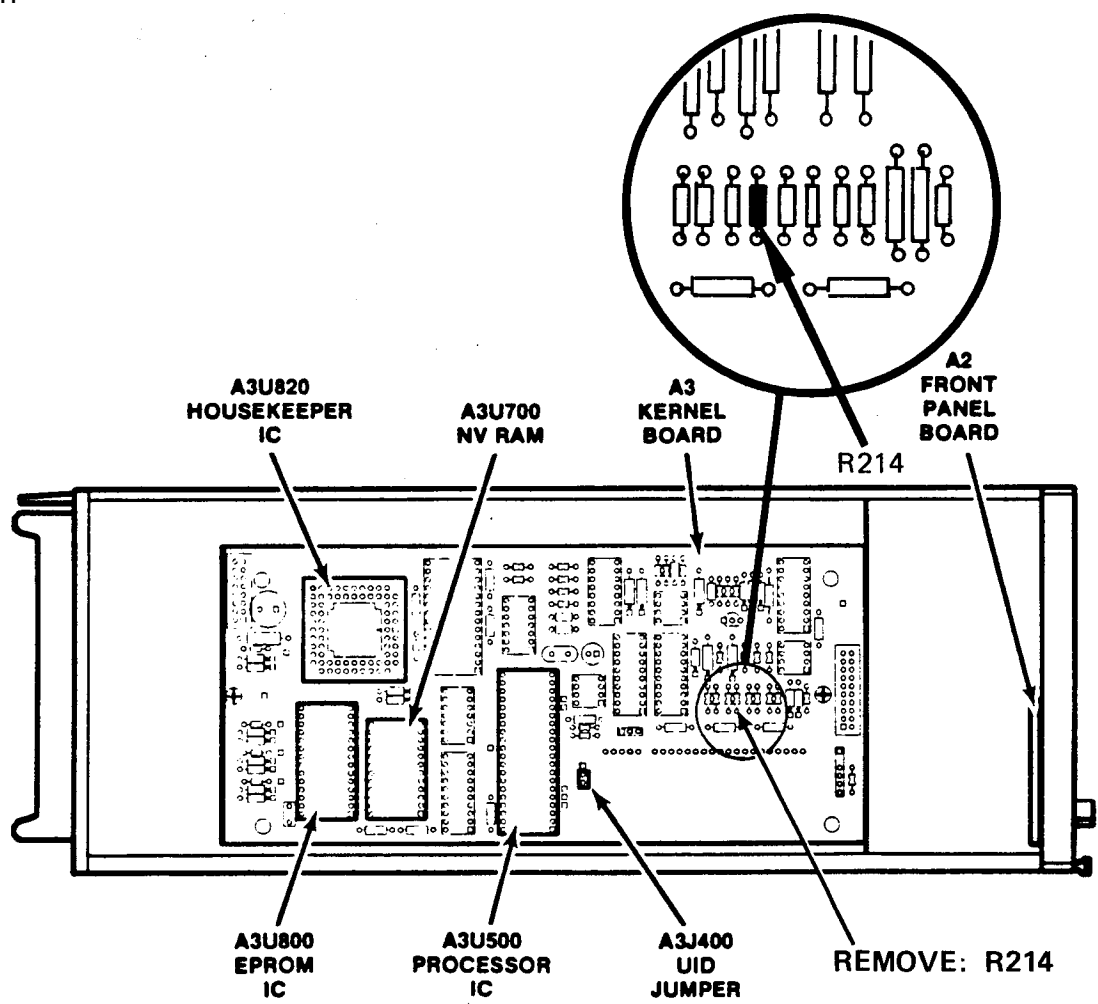

Figure 1. - Component locations Kernel ckt bd.
- () 4. Unsolder R214, and 20k Ω , resistor from the circuit board, refer to Figure 1, for R214 location. Set the resistor aside for later assembly.
- () 8. Remove U800, EPROM microcircuit, using an Insertion - Extraction Pliers (such as General Tool's pn U505BG, a 28-pin type). Position the pliers around the outside of the EPROM microcircuit. Squeeze the handles to grasp the EPROM and slowly pull it from the socket. Refer to Figure 1, for component location and indexing.
- () 3. Move the UID Term Conn Link (jumper) J400 on the Kernel circuit board A3. The jumper should be on pin 2 and 3 in its normal position. Remove the jumper and install it on pins 1 and 2. (shown in Figure 1).